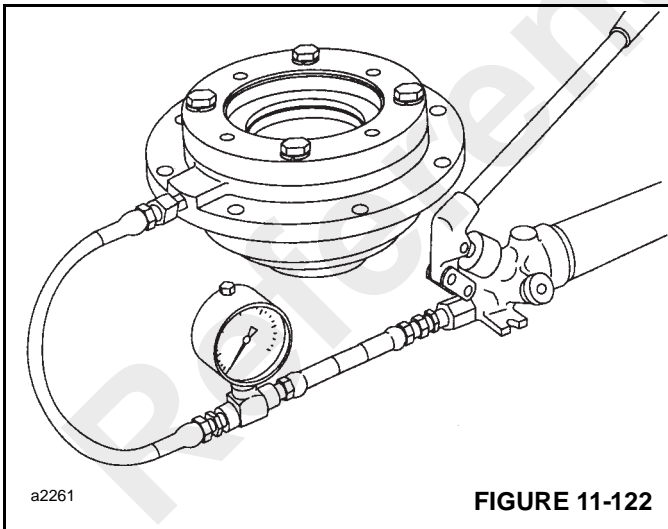

FIGURE 11-122
1. Install the -4 J.I.C fitting in the brake release port. Connect a hand pump with a 0 - 13 800 kPa (0 - 2000 psi) pressure gauge and shutoff valve to this fitting (Figure 11-122).